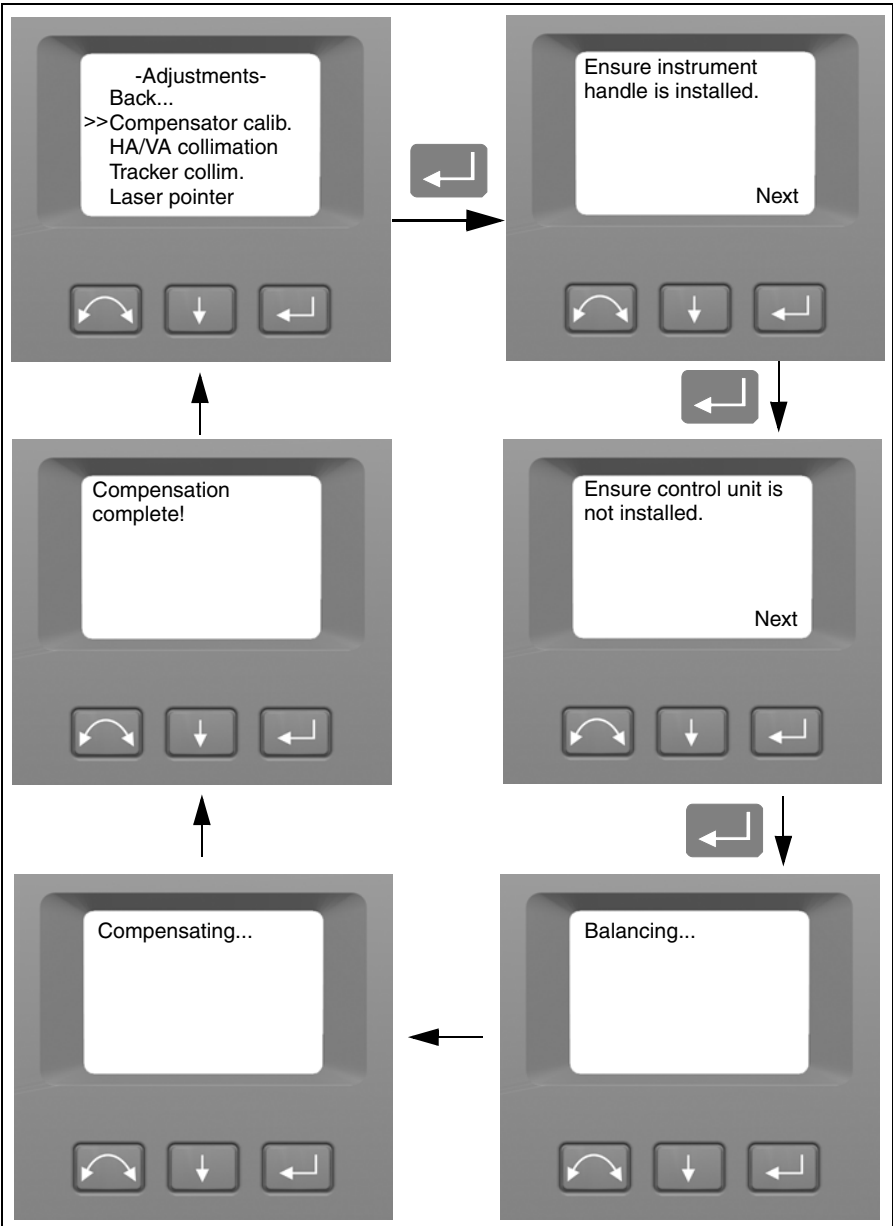

Figure 4.30 Compensator calibration routine
3. Follow the instructions in the display. Figure 4.30.